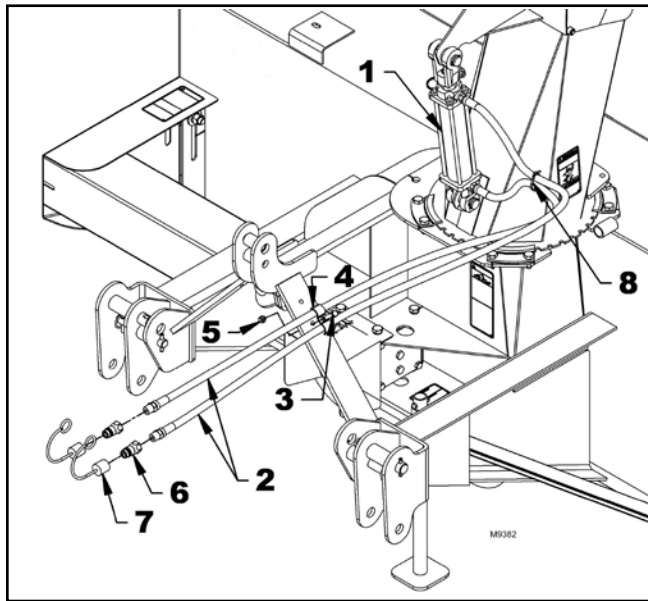

Figure 25. Assemble Hydraulic Hoses
3. Using thread sealant, connect the 3/8 NPT ends of both hoses (item 2) to the hydraulic cylinder (item 1).
4. Figure 25: Using thread sealant, connect the 1/2 NPT end of each hose (item 2) to a quick coupler (item 6) and dust cap (item 7).
5. Secure the hoses to the hole provided in the three-point hitch using hose clamp (item 4) and 3/8 NC x 1-1/2" bolt (item 3) and 3/8 NC nylon insert nut (item 5). Tie the two hoses together at equal intervals using plastic ties (item 8) and trim excess length from each tie.